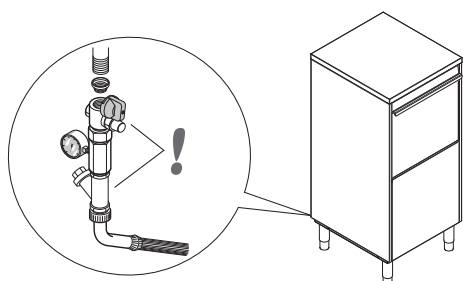

Fig. 6
- Connect the appliance water supply pipe "A" (Fig. 4) to the mains, fitting a cut-off cock, the filter provided and a pressure gauge between the appliance and the mains (Fig. 6).